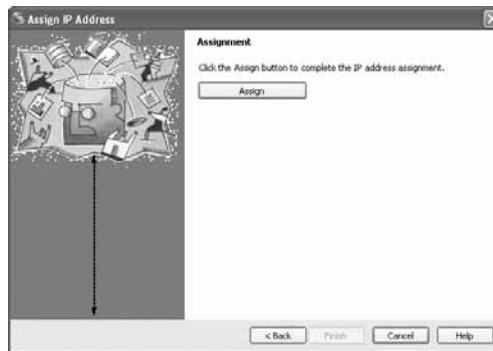
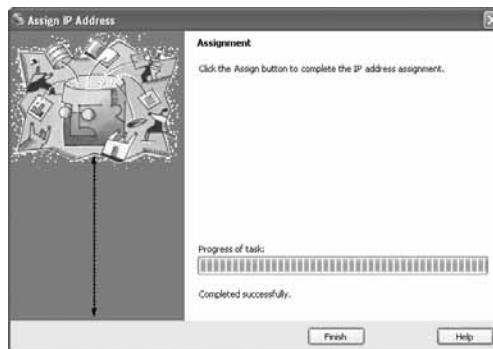

Figure 7-6: Assignment screen with the Assign button
Figure 7-7: Assignment screen with "Progress of task:" bar
9. When the "Assignment" screen displays, Figure 7-6, press the **Assign** button to begin the process of assigning the new IP address. The Assignment status screen displays, showing the progress of the current task, as seen in Figure 7-7